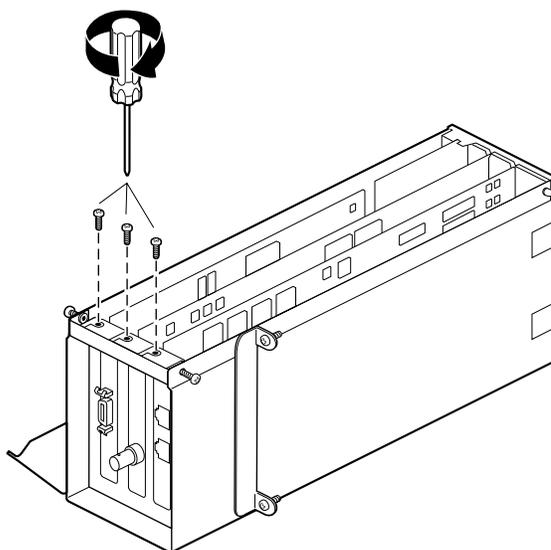

Figure 4-26 Reinstalling the I/O Panel Screws
7. Insert and tighten the screws that secure all PCI boards to the I/O panel, as shown in Figure 4-26.